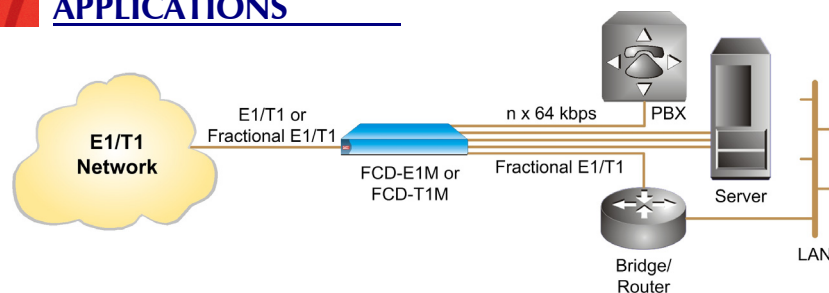

Figure 1. LAN and PBX Traffic over an E1/T1 Network
- FCD-E1M and FCD-T1M serve as access multiplexers, to provide business customers with modular integration of voice and data traffic over E1/T1 or Fractional E1/T1 services (see *Figure 1*).